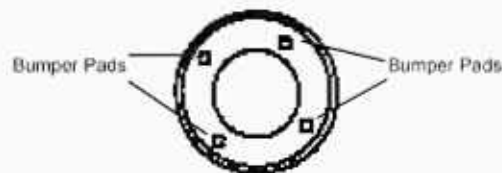

Figure 6
You may now affix the (4) protective bumper pads "BP" to the bottom of the swivel "SW" (Figure 6).